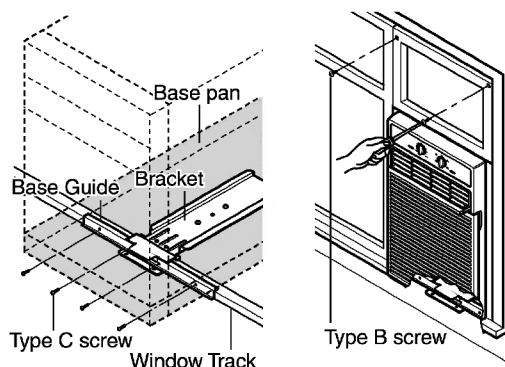

Figure 29
11. Drill 1/8 inch holes in window track through the existing holes on Base Guide. Screw 4 Type C screws through the holes. (See Figure 29)
13. Drill 1/8 inch hole in window jamb to align with the existing holes in the Curtain Frame. Attach Curtain Frame to window frame with 2 Type B screws. (See Figure 29)